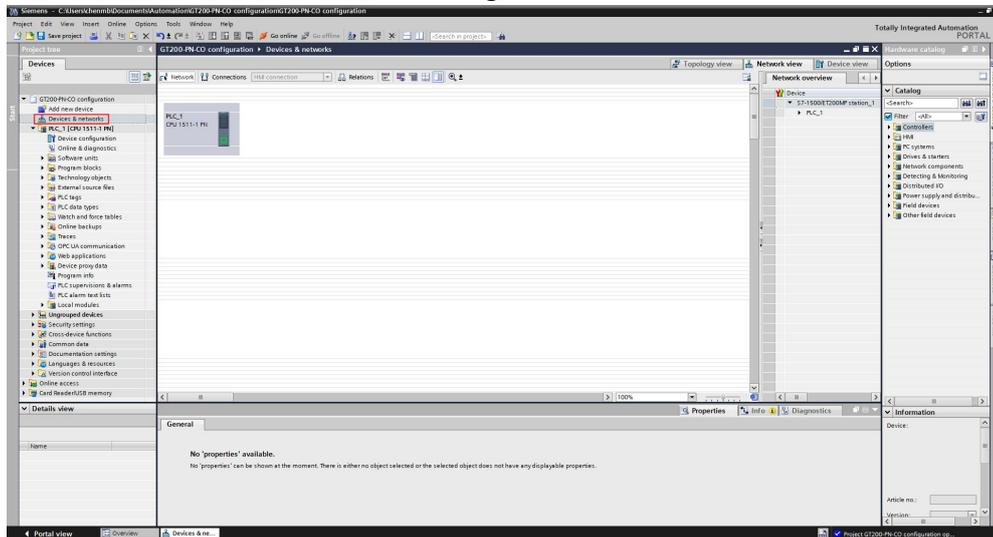

Figure 4: Devices & Networks
1.5 Click "Add" in the lower right corner, and double-click "Devices & Networks", the interface is shown in Figure 4.